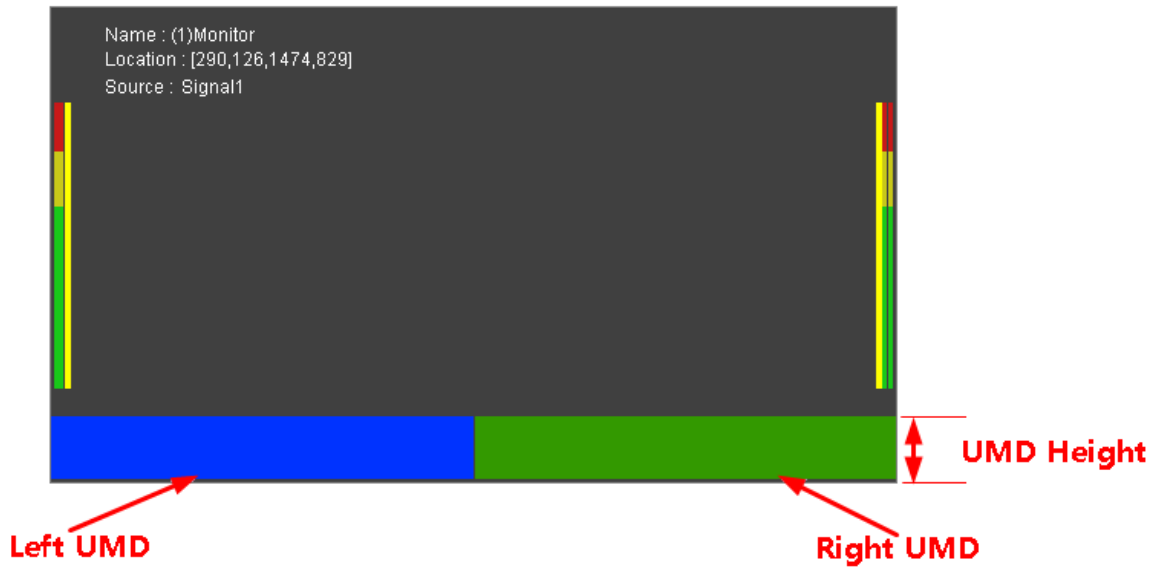

Figure 3.5-53 UMD
- UMD Setting: UMD is displayed at the bottom of a monitor window, as shown in **Figure 3.5-53**, you can assign the height for UMD, or choose whether to display the left UMD or the right UMD separately.